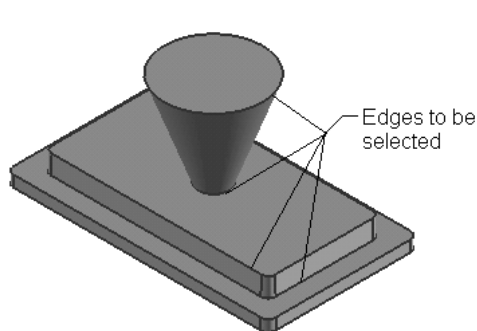

Figure 8-44 Edges to be selected
- Create the edge blend on the rectangular pad and the boss feature, refer to Figures 8-44 and 8-45, and then save the file.
- Select the edges of the model, as shown in Figure 8-44, and enter the value as 2 in the **Set1 R** edit box. Choose the **OK** button from the **Edge Blend** dialog box.